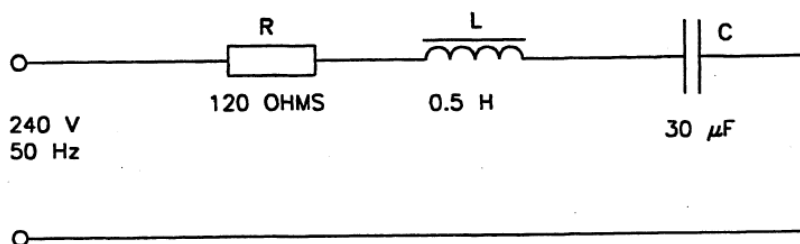

Figure 8 - RLC series circuit
33. If a circuit contains resistance (R), inductance (L) and capacitance (C) connected in series, the voltage across the inductor and the voltage across the capacitor are exactly opposite (they are 180° out of phase with each other), so one tends to cancel the other.
34. Figure 8 represents an RLC series circuit in which the component values are:
- Resistance (R) = 120Ω
- Inductance (L) = 0.5H
- Capacitance (C) = 30μF